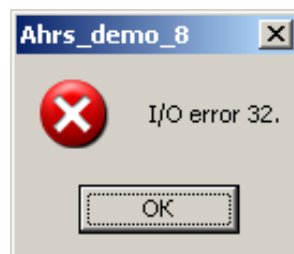

Fig. 12.2
2. You can not work with file if it is opened by other program on your PC for viewing or editing. In this case window like Fig.12.2 appears. Just close that other program and repeat operation with file in the AHRS Demo Program again.